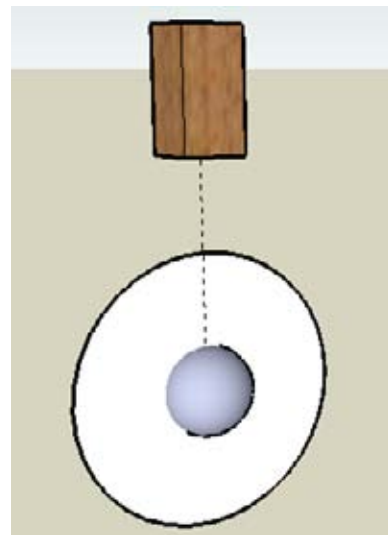

Figure 4-36
6. To create the sphere, select the larger circle as the Follow Me path and use Follow Me on the smaller circle (Figure 4-36).